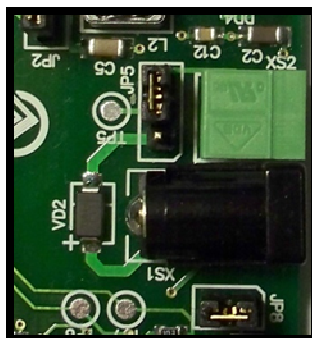

Fig 7. Jumper JP5 position
- jumper JP5 should be in the position - “powering from USB”, see Fig. 7;